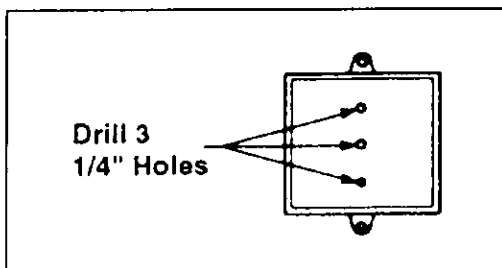

Figure 1. Drilling Enclosure Holes
- b. Drill three 1/4-inch holes through the enclosure per figure 1.